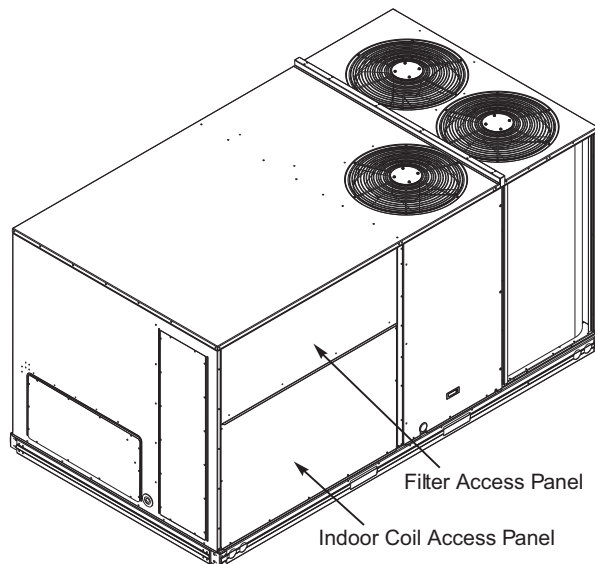

Fig. 18 — Typical Access Panel Locations
1. To gain access to the hood, remove the filter access panel. See Fig. 18.